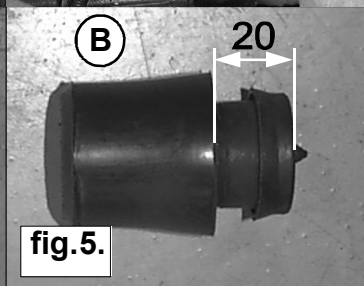

fig.5.
5. Press the MAD bump stop B onto the original bump stop 2. You can use a vise for this. Press it so far as shown on fig. 5.